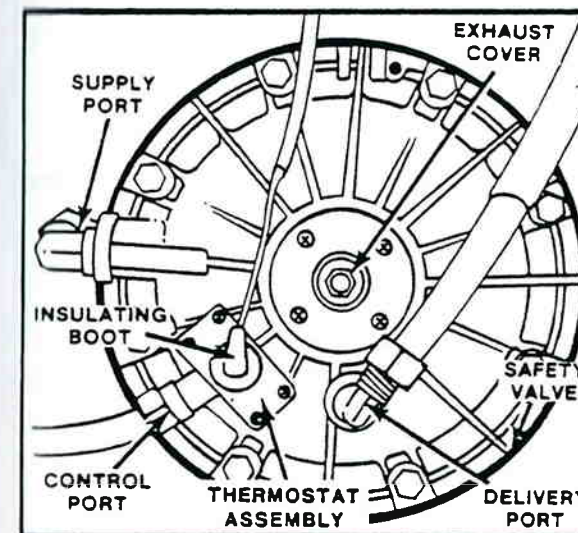

Figure 4-59. AD-4 End Cover (Bottom View).
5. Check the operation of the safety valve (figure 4-59) by pulling the exposed stem while the compressor is loaded (compressing air). There must be an exhaust of air while the stem is held and the valve should reseat when the stem is released.
b. Turn off the ignition and cool the end cover assembly to below 40°F (4°C). Using an ohmmeter, check the resistance between the electrical terminal (pull boot back) and the metal end cover (see figure 4-59). Resistance should be 4.0-7.0 ohms.
**Reassembly** — Reinstall the thermostat cover as illustrated in figure 4-59. Take care to assure the rubber spacer and the gasket are correctly installed, to assure proper operation.